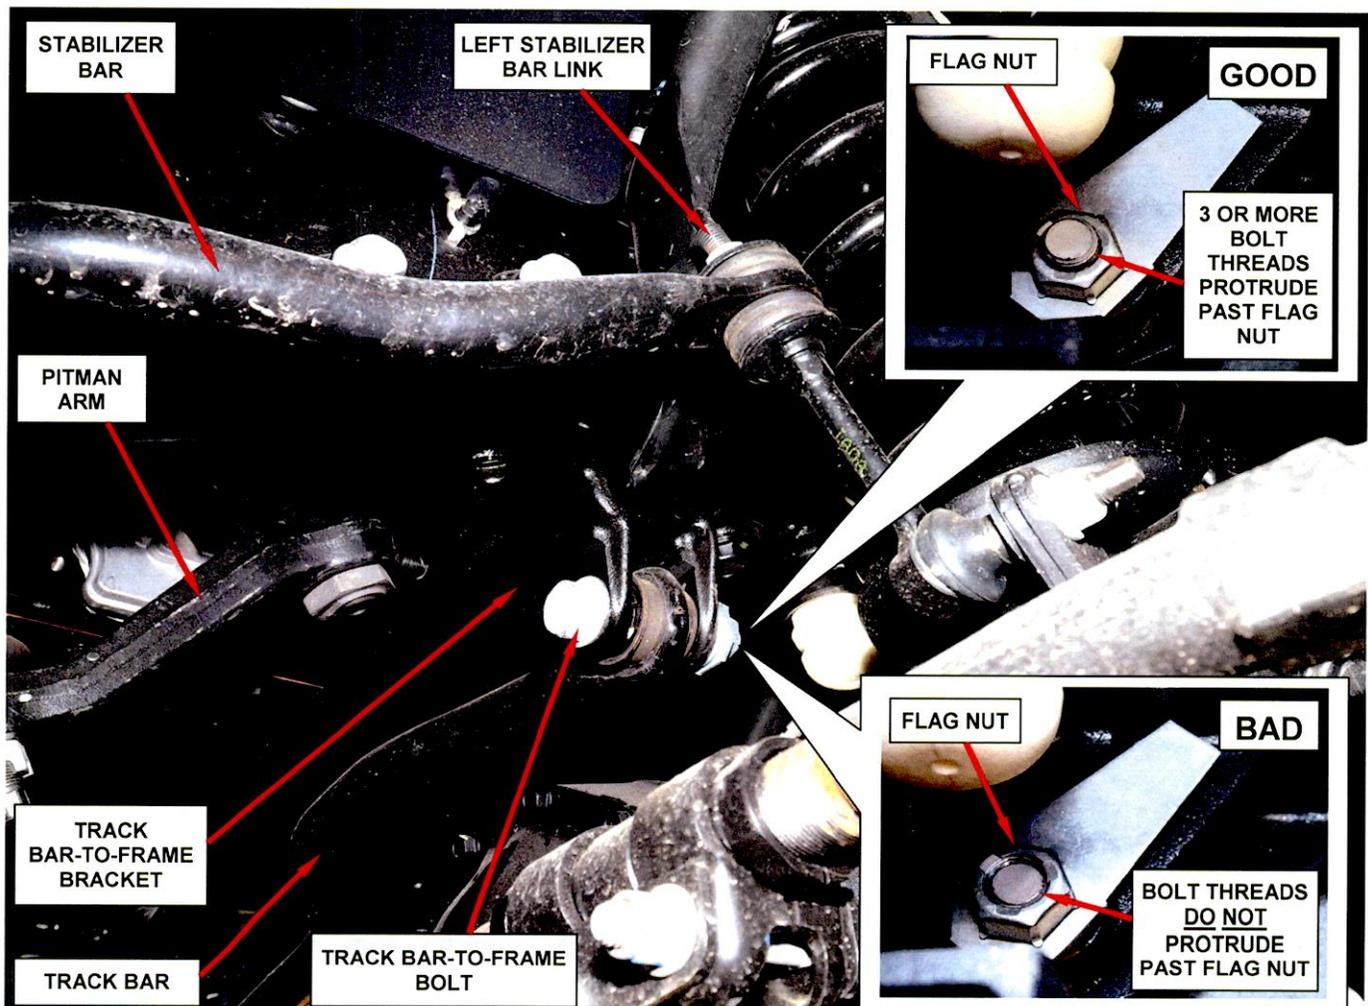

Figure 1 – Inspect Track Bar-to-Frame Bolt Length
2. Inspect the front suspension track bar-to-frame bolt (Figure 1):